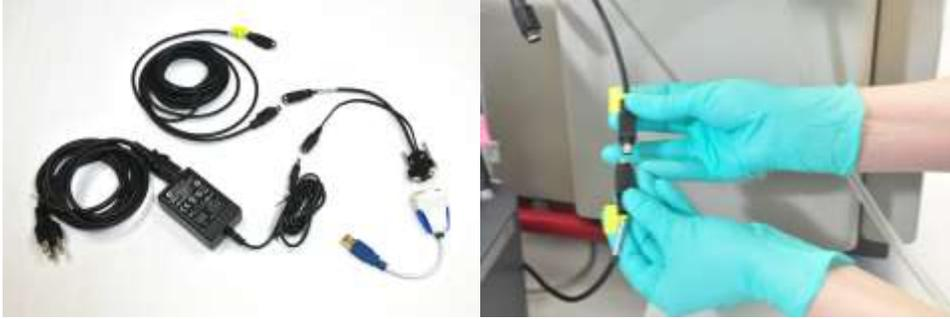

Figure 4.10 Actuator coupling cable components (left). Connect the coupling cable to the X actuator.
8. Locate the actuator coupling cable components (Figure 4.10). This includes a 15'-long, split-end cable that supplies power and transfers data to and from the motors. Connect the coupling cable (yellow) to the X actuator cable (yellow). DO NOT connect to the PC at this time.
2. Locate the lens tube in the accessories box. Screw the tube onto the front of the digital camera (Figure 4.10).